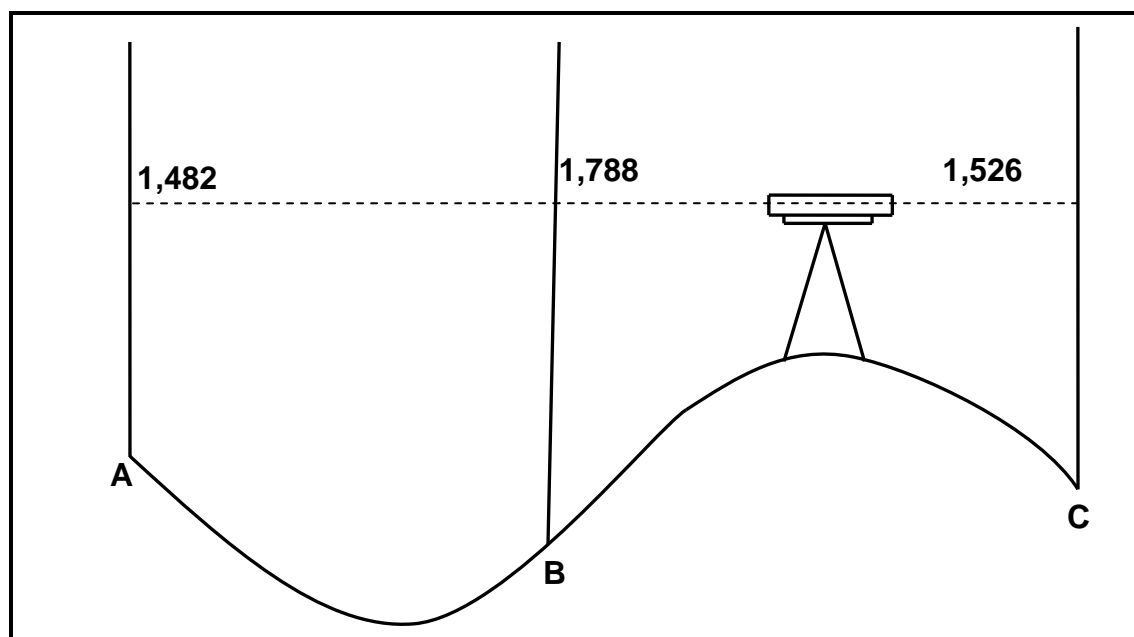

FIGURE 2.4
2.4 FIGURE 2.4 below shows different readings taken with a dumpy level. Use the given readings and calculate the following: